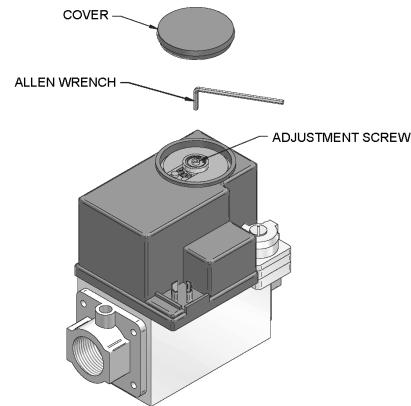

Figure 8. Gas Valve Adjustment - Model 600-800
- Remove the cover on top of the gas valve (see Figure 8).
- Turn the adjustment screw on top of the gas valve clockwise one and three quarter (1 3/4) turns on the 600 Model, one and a half (1 1/2) turns on the 700 Model, and one turn on the 800 Model (see Figure 8).
- Use a combustion analyzer to verify CO₂ is within the range of 9.6 – 10.5%. If not, adjust the screw counterclockwise incrementally to raise CO₂ and clockwise to lower CO₂ (see Figure 8).
- After adjustment is complete, attach the propane conversion label (in the conversion kit bag) next to the water heater rating plate. Attach the Propane (LP) caution label (in the conversion kit bag) to the left side of the unit in the lower left corner.